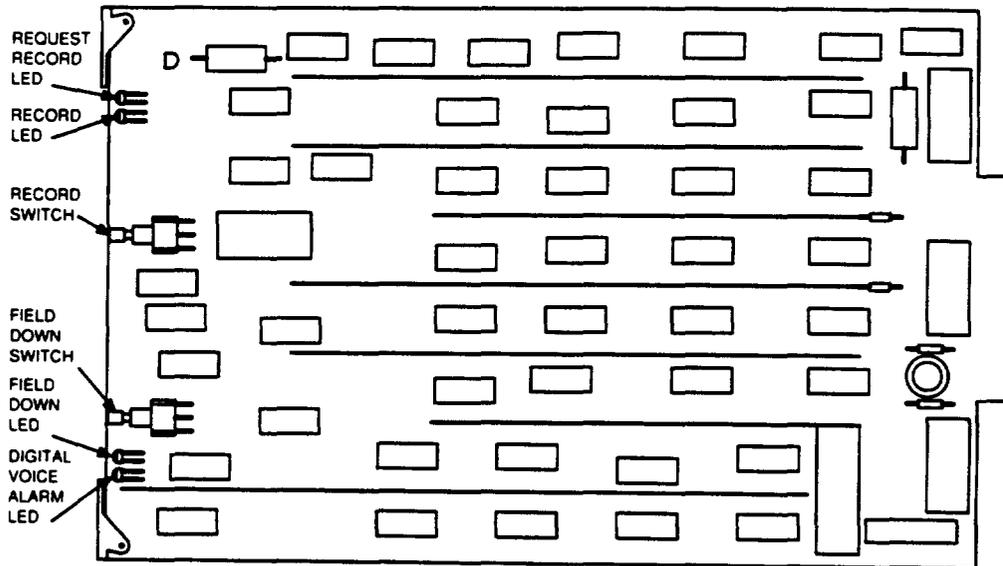

Figure 3. UD3B Timing and Control Circuit Pack
2.06 UD3 and UD3B—Timing and Control Circuit Pack: The UD3 or UD3B circuit pack generates timing and control signals for the 13A. Certain controls and indicators located on the front edge of each circuit pack (Figure 3) are for control functions. These controls and indicators are described in Table B.